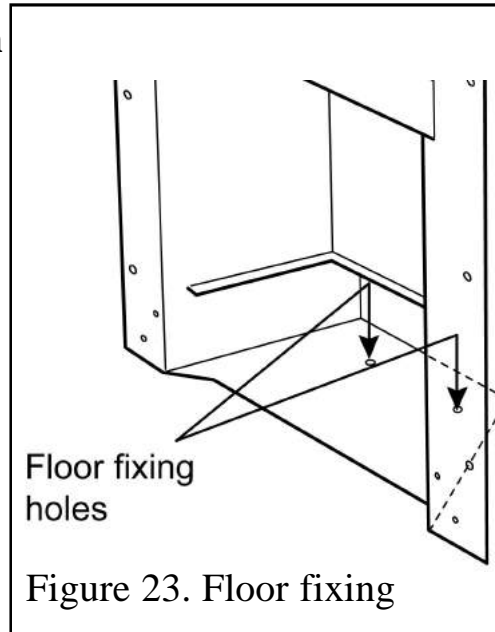

Figure 23. Floor fixing
8. Drill a hole into the fireplace floor through each of the two holes in the base of the convection box using a no.12 masonry drill (See figure 23).